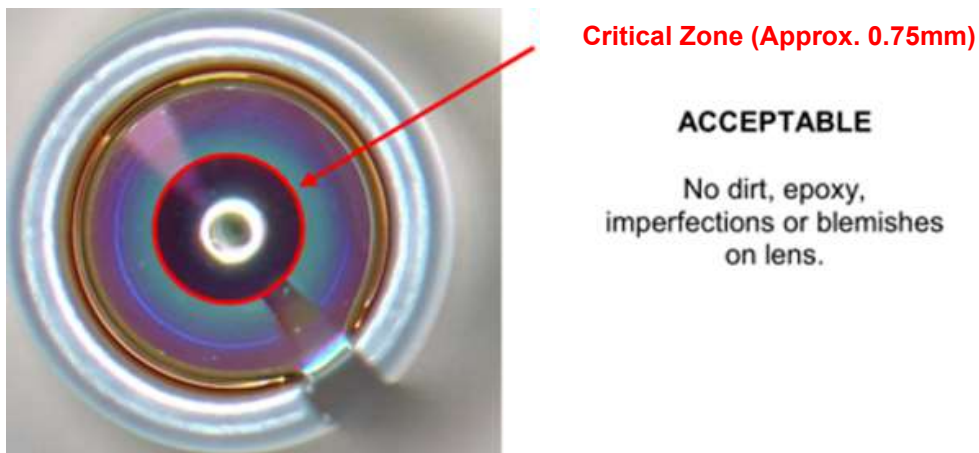

Figure 10
4. In the rare case that a stubborn blemish, epoxy drop, or a permanent contaminant cannot be removed, simple leave it be if it is located outside a central diameter of approximately 0.75 mm (see Figure 10).